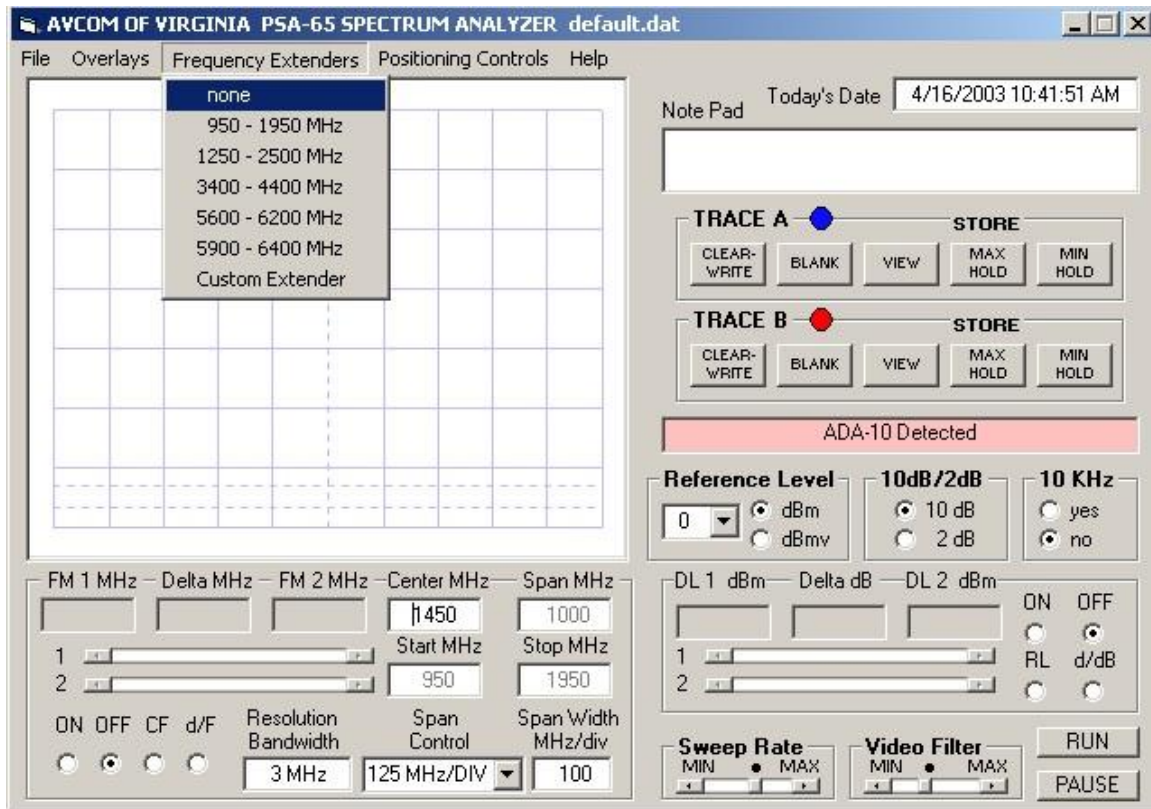

Figure 12-1
1. Click on FREQUENCY EXTENDERS, then click on the frequency range of the extender that you are using (See Figure 12-1).